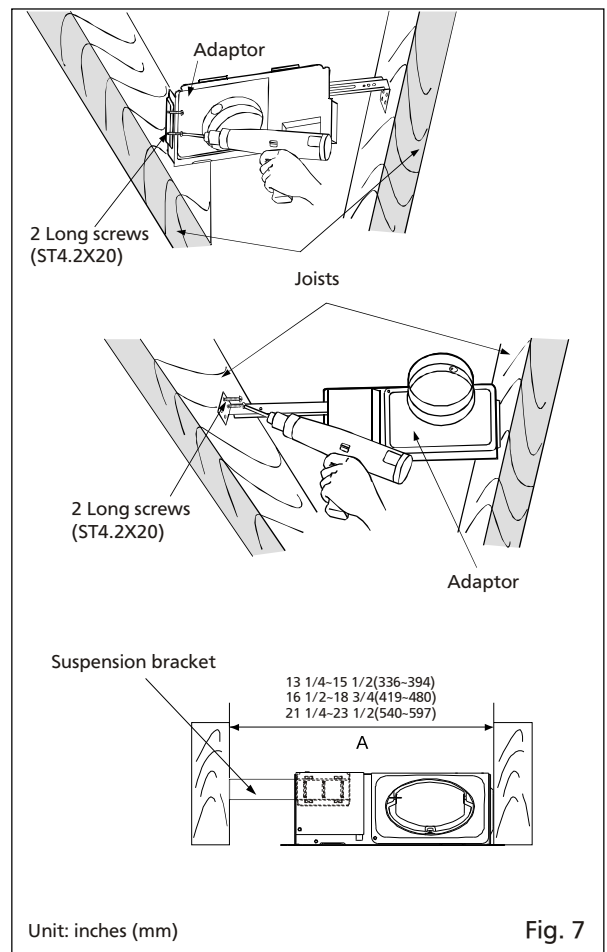

Fig. 7
2. Insert the suspension bracket into the adaptor and secure it to joists by using long screws (ST4.2X20). (Fig.7)